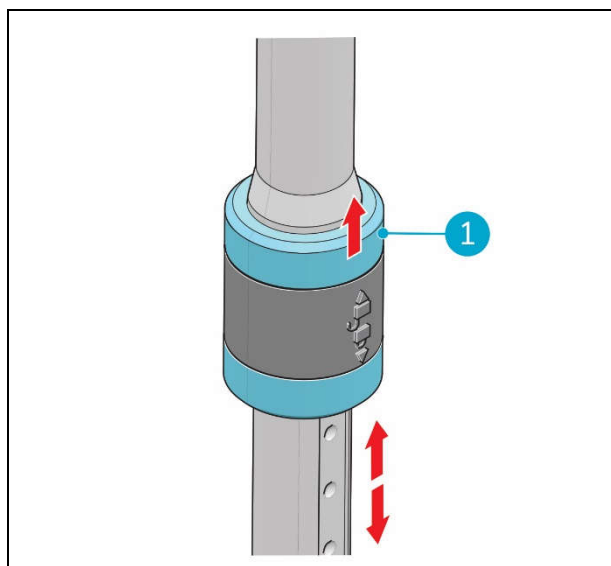

Figure 20
Pull the knob (fig 20, pos 1) on the wand up to unlock it, adjust the length of the wand and release knob to lock it.